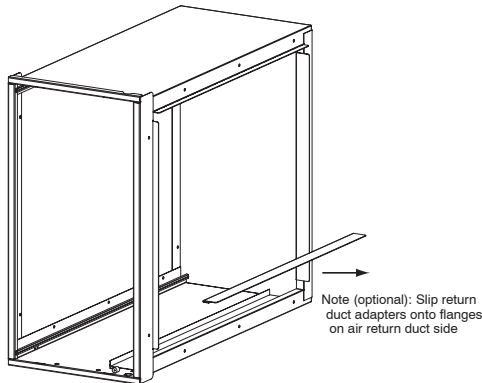

Fig. 6 - Use of Return Duct Adapters
- f. Return air duct adapters have been included for installer convenience. They should be used to connect the upstream side of the air purifier cabinet to the return air duct (see Fig. 6).